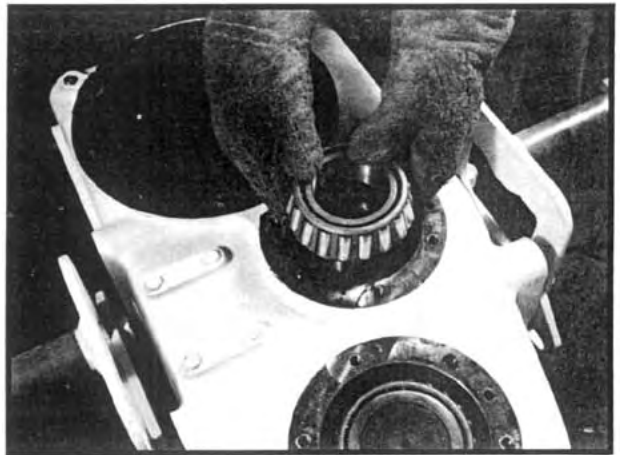

Fig 54
- Place one of the bearing cups into its bore in the front of the housing. Install the front intermediate shaft cap with a new gasket. Install the (6) cap screws and washers. Torque to specification.
- Slip the spacer washer over the intermediate shaft against the gear. Heat and install the remaining bearing cone assembly against the spacer washer. See Figure 54.